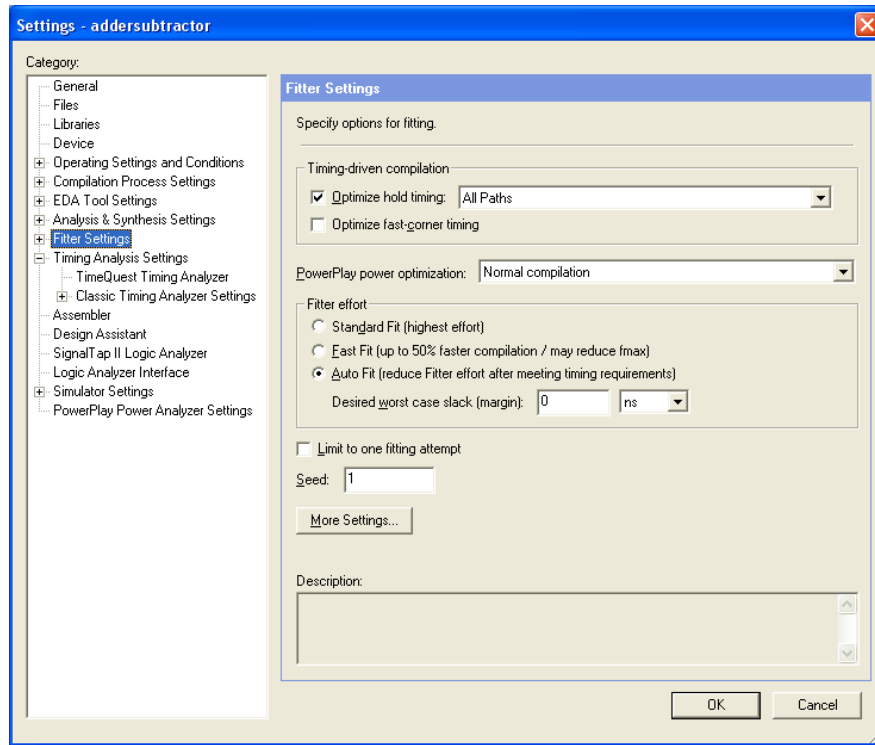

Figure 36: Fitter settings.
- From the main Quartus® II window, click **Assignments > Settings** and then select the category **Fitter Settings** which opens the window in Figure 36. Three different levels of effort can be given. Choose the Auto Fit option, which instructs the Fitter to stop as soon as it finds an adequate implementation. The Fast Fit option reduces the compilation time, but it may produce a lower f_{max} . The third option, Standard Fit, forces the Fitter to produce the best implementation it can find; at this effort level the Fitter will exceed the user's timing requirements as much as it can, which often results in longer compilation time. Click OK, and recompile the circuit.